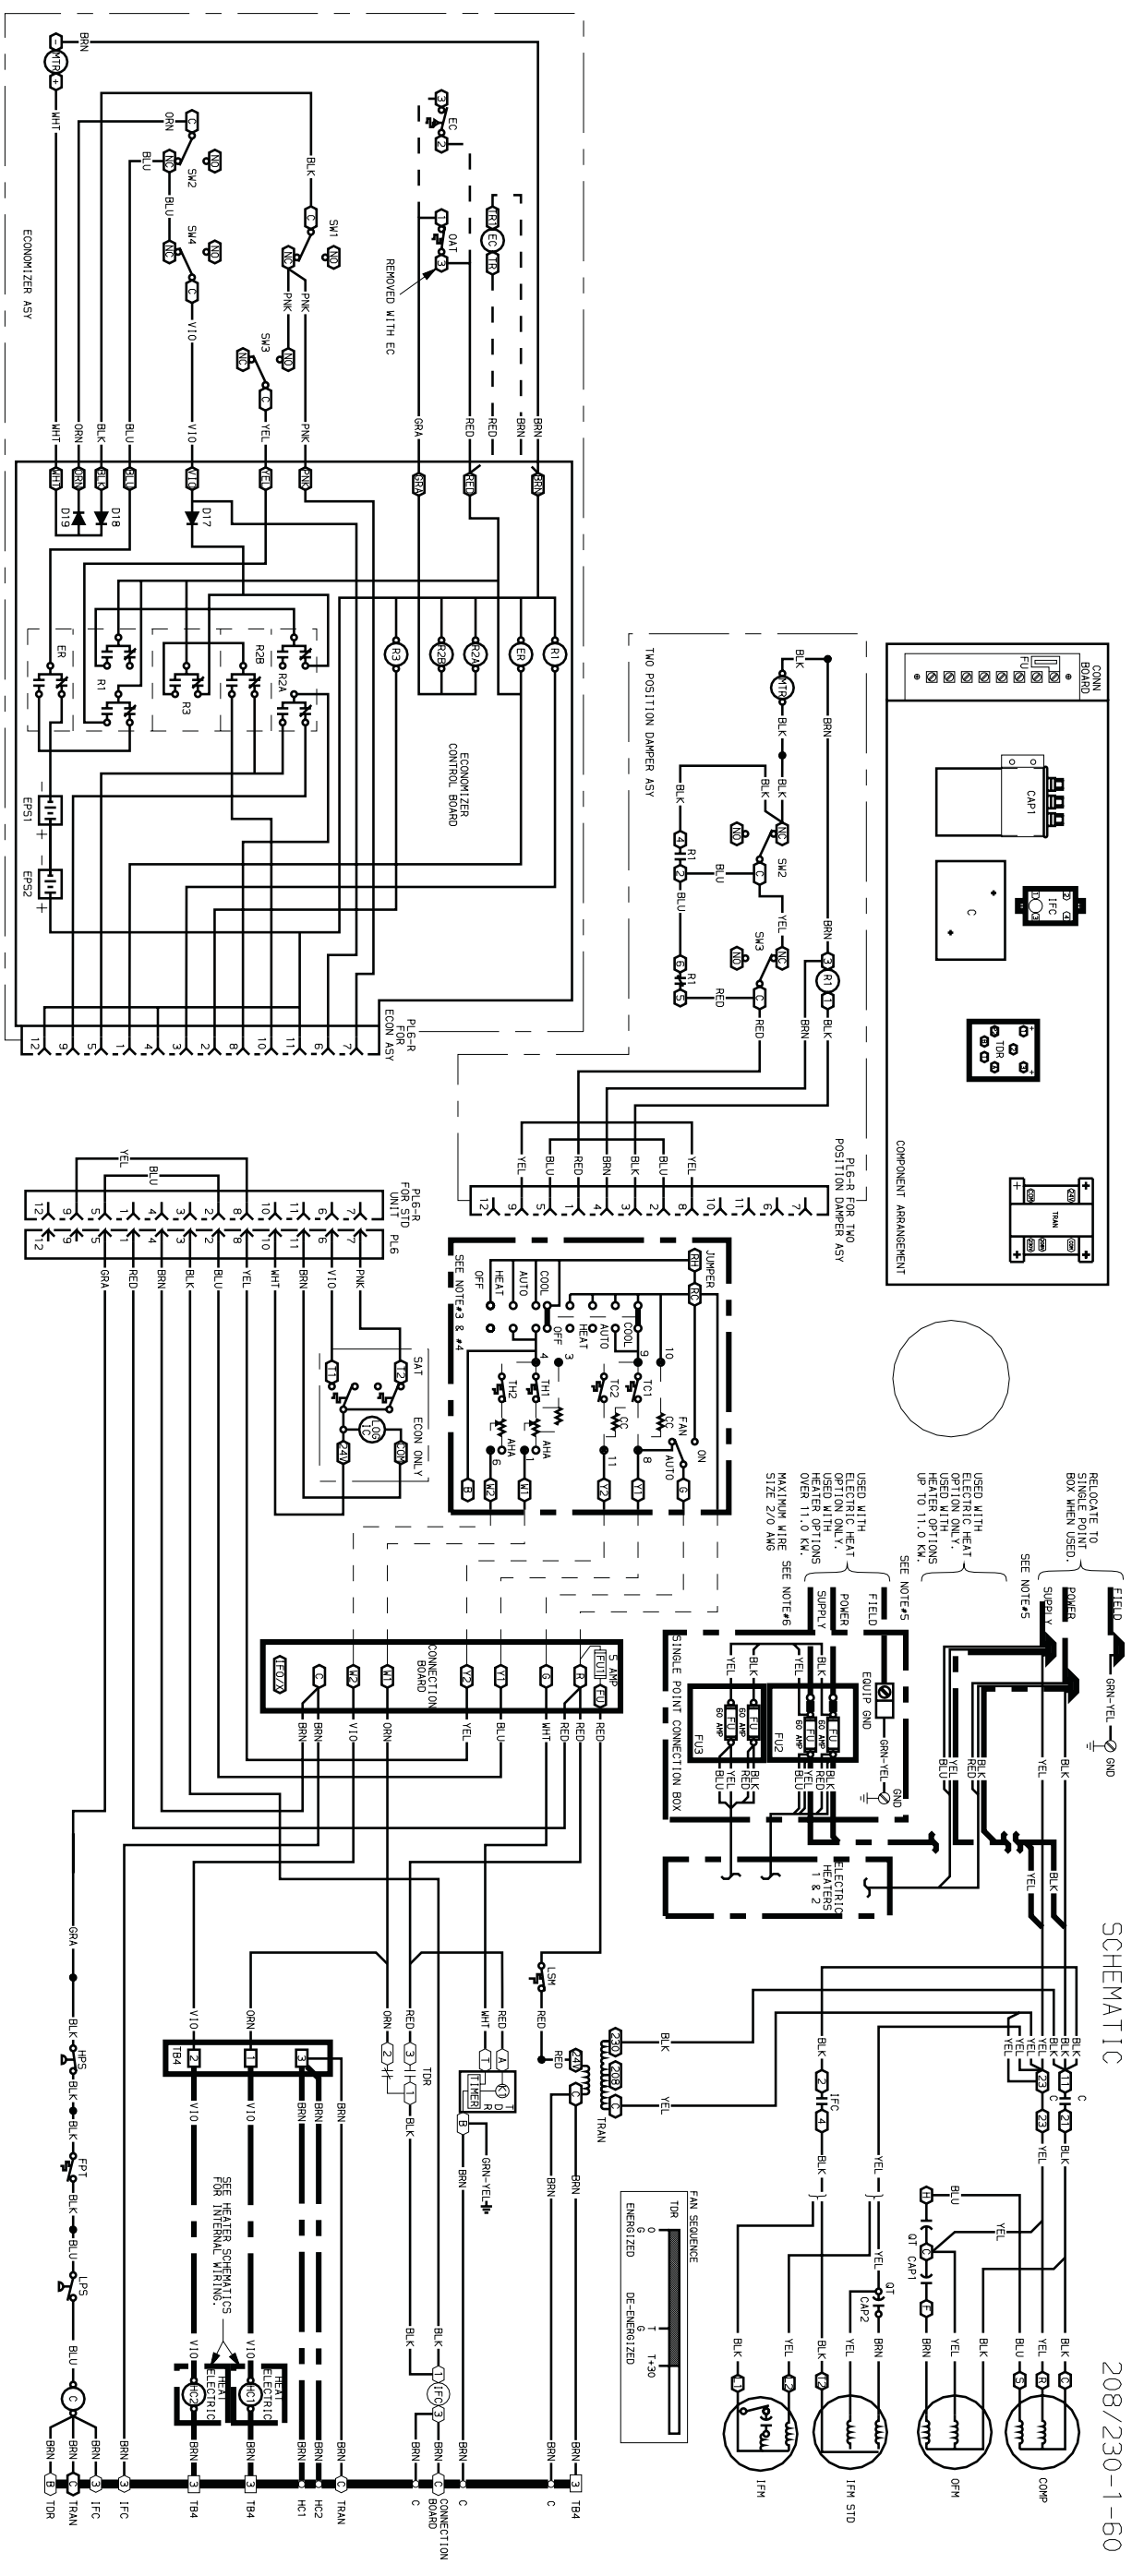

Fig. 1 — Schematic/Component Arrangement; 558F036,048; 208/230-1-60
**NOTES FOR FIG. 1, 2, 5, 6, 9**